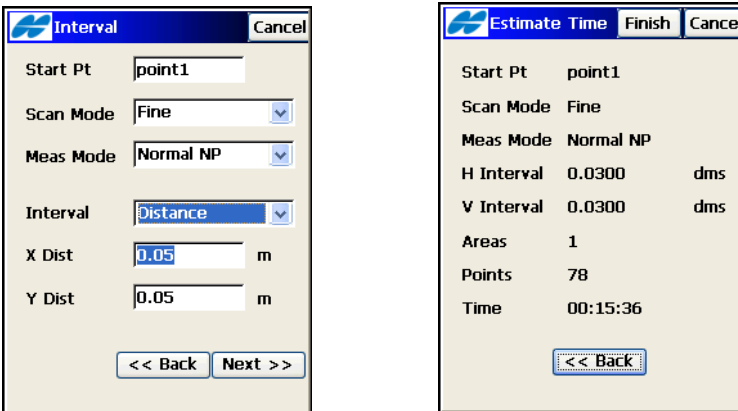
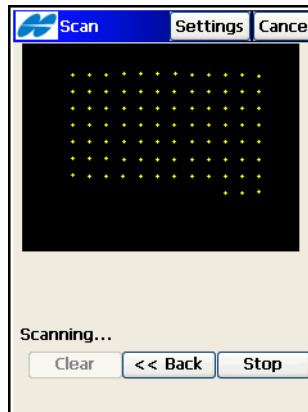

Figure 11-44. Interval and Estimate Time
Figure 11-45. Scanning in Progress
- **Next** – displays the same *Interval* and *Estimate Time* screens as for Scanning with Image mode (Figure 11-44).
Press the **Finish** button on the *Estimate Time* screen (Figure 11-44 on page 11-42) to start scanning (Figure 11-45).